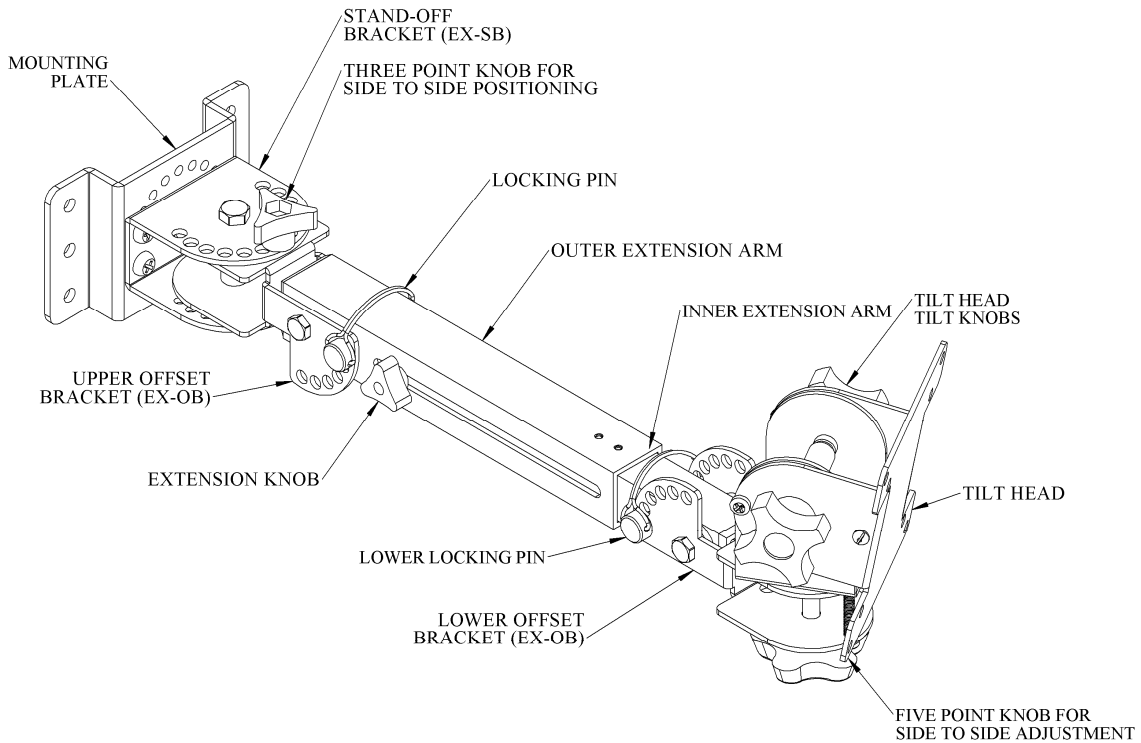

Figure 2 - UVHM-EX with VESA tilt head
2. Slightly loosen the small three pointed knob on the side of the middle of the arm until the inner and outer arms will slide over each other (See Figure 2).
1. The offset angles of the OB brackets must be set equally so that the upper and lower OB brackets are kept in parallel to each other (See Figure 2). For example: if you adjust the upper bracket two holes down, you must adjust the lower bracket two holes up.
1. Place the entire assembly on a flat surface. Remove the five point knob from the lower OB bracket. Remove the anti-slip washer and the entire tilt head unit (See Figure 2).
1. Place the entire assembly on a flat surface, remove the five point knob from the lower OB bracket, remove the anti slip washer and the entire tilt head together as a unit (See Figure 2).
6. Remove the three point knob from the side of the arm and separate the arm sections (See Figure 2).
7. Remove the locking pins from the OB brackets on both the upper and lower arm sections (See Figure 2).